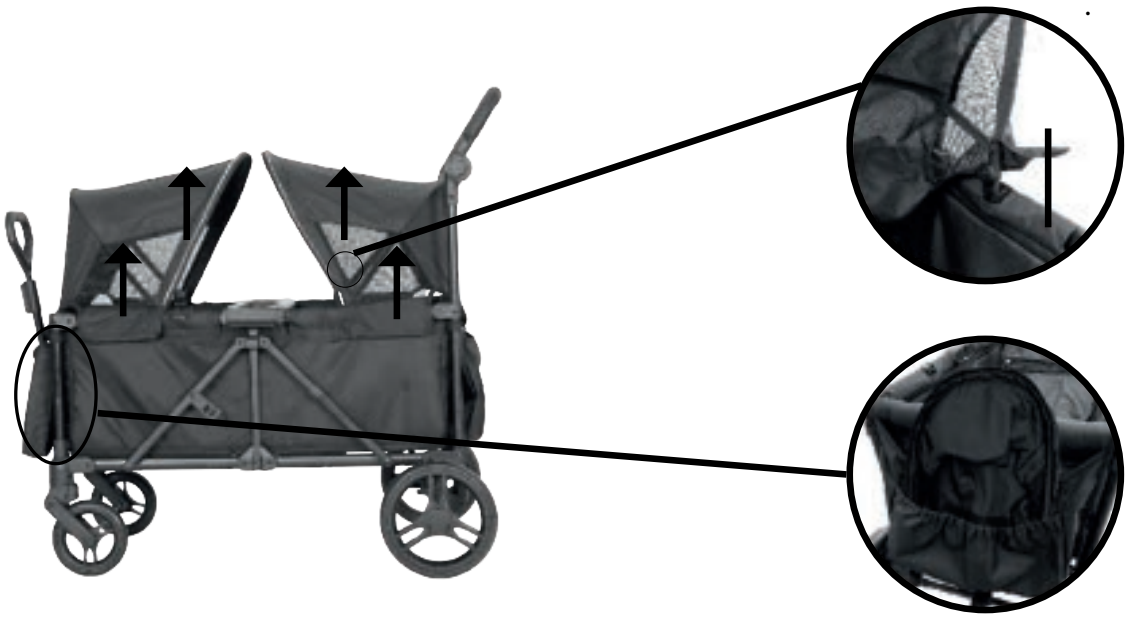

Fig. 4F
- Canopy can be stored in front storage pocket (Fig. 4F)